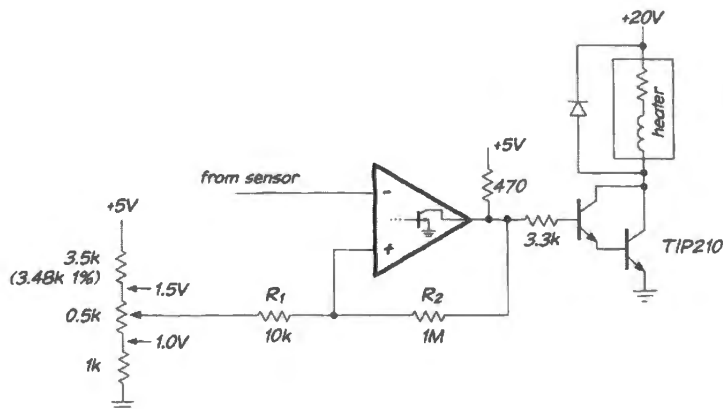

Figure 8W.11 Full heater-control circuit.
And here it is, all put together in Fig. 8W.11. Values shown in parentheses are 10% or 1% resistor values – “3.5k” happens to be a strange value to specify.
- the third plot in Fig. 8W.8 shows about 0.9V “collector–emitter saturation voltage.”